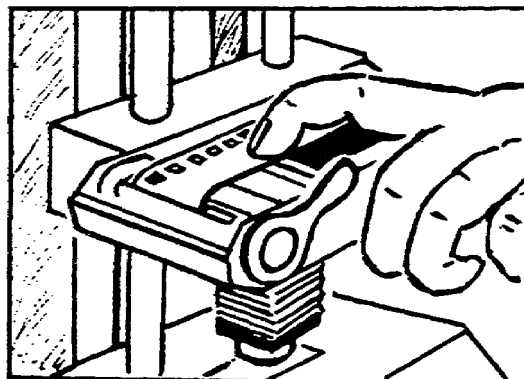

Figure 1-19. Insert Film Tab.
f. Insert the film tab into one of the slots in the take-up spool, and at the same time, make sure that the film perforations are aligned with the sprockets in the camera to insure proper film advance (fig 1-19).